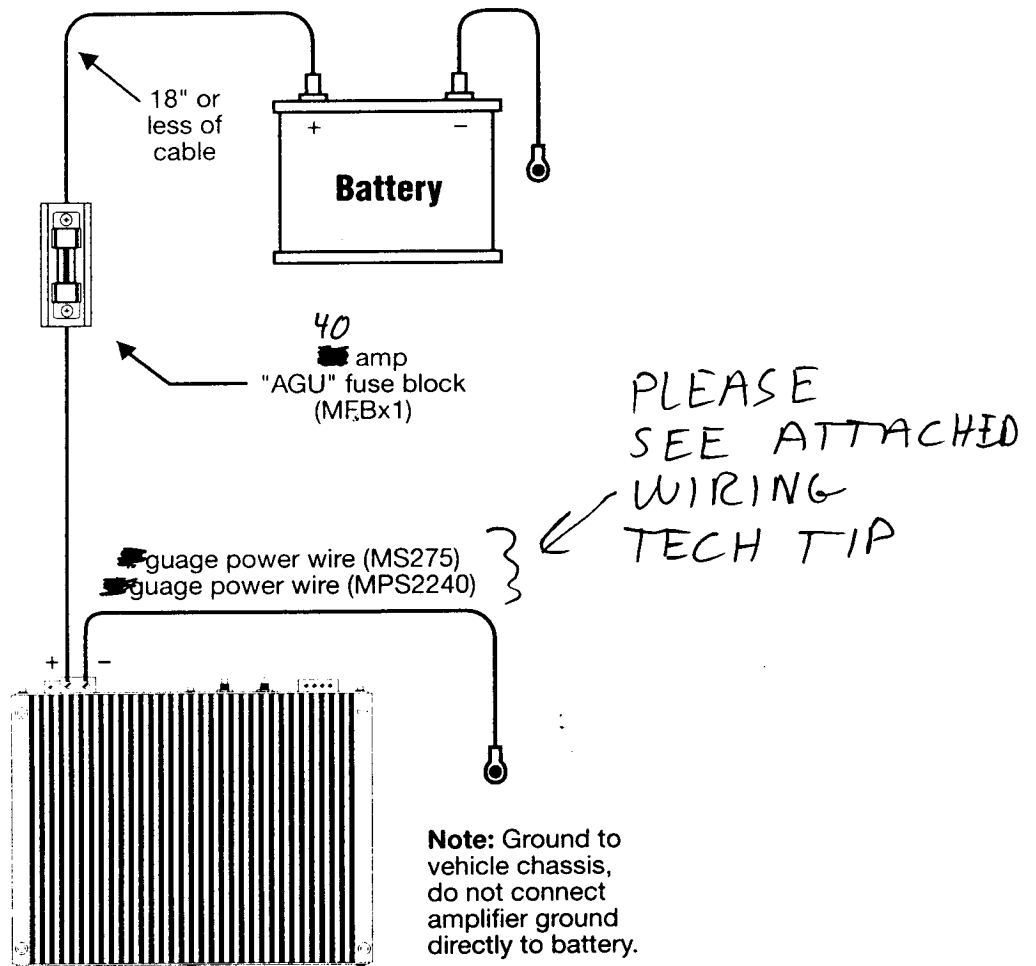

Figure 5: PowerFlow System
2. Always place a fuse or circuit breaker no more than 18 inches from the battery. This protection is only for the vehicle, not the amp and should be no greater than 30 Amps per amplifier. (See Figure 5)